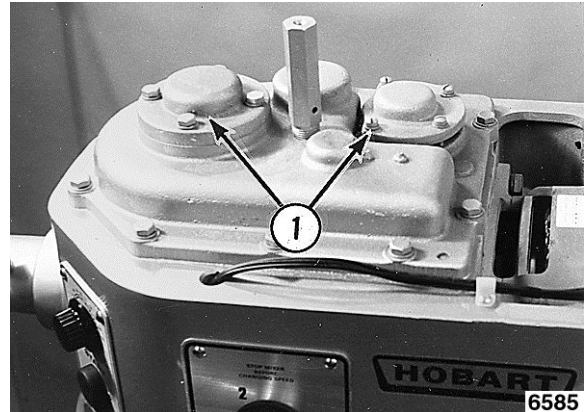

Fig. 40
5. Remove the worm shaft and planetary shaft bearing retainer covers [1] Fig. 40.